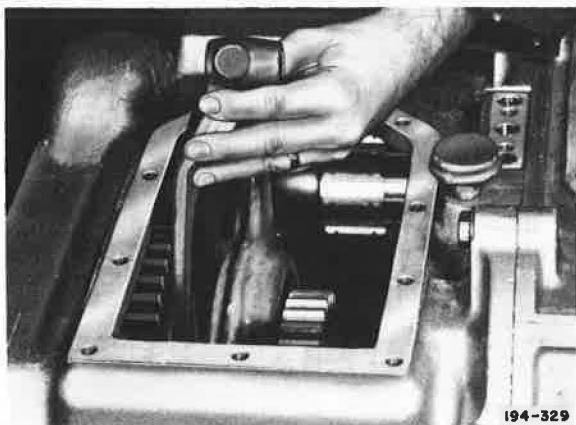

Figure 5-204. Installing Reverse Speed Shifter Fork
21. Install reverse speed fork on reverse speed sliding gear and install first speed fork on first speed sliding clutch. See Figures 5-204 and 5-205.